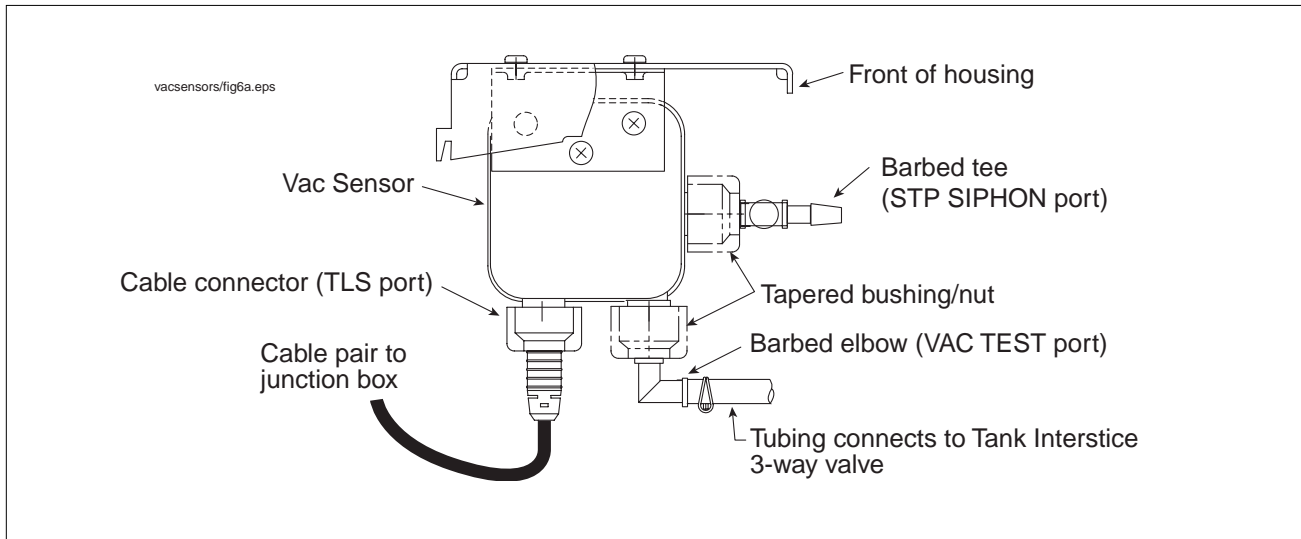

Figure 5. Vac Sensor /tank interstice tubing connections
- If the tank interstice is monitored, get a barbed elbow, tapered bushing and cord grip nut (1 each) from the Vac Sensor tank interstice monitoring kit. Insert a tapered bushing and barbed elbow into the bottom port labeled VAC TEST (embossed on cover) of the Vac Sensor without a Vac Float. Orient the elbow as shown in the Figure 5, then tighten the cord grip nut.